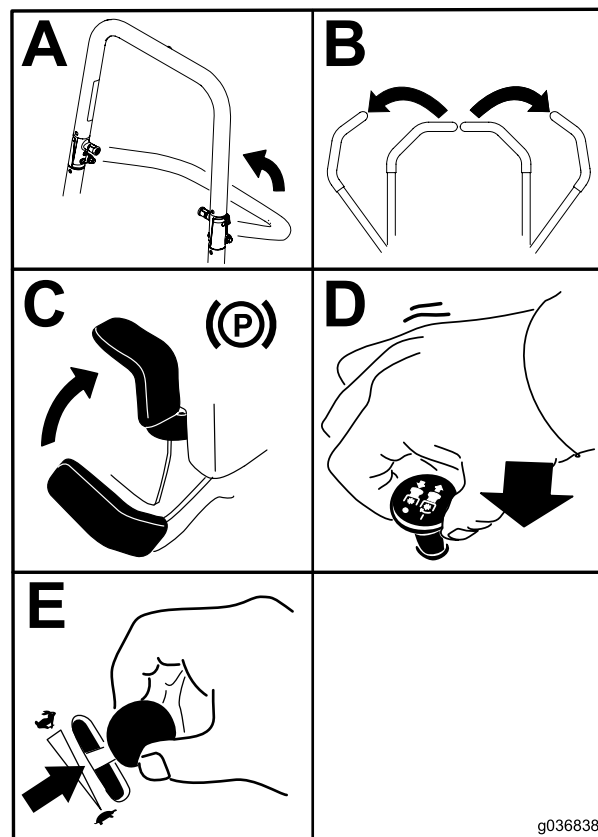

Figure 23
4. Move the blade-control switch (PTO) to the OFF position (Figure 23).